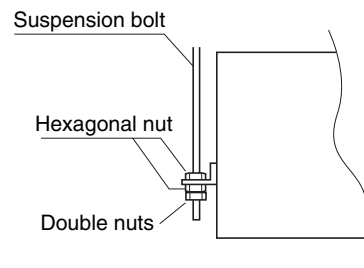

Fig. 3-74
- (3) Thread the 3 hexagonal nuts and 2 washers (field supply) onto each of the 4 suspension bolts as shown in Fig. 3-74. Use 1 nut and 1 washer for the upper part, and 2 nuts and 1 washer for the lower part, so that the unit will not fall off the suspension lugs.